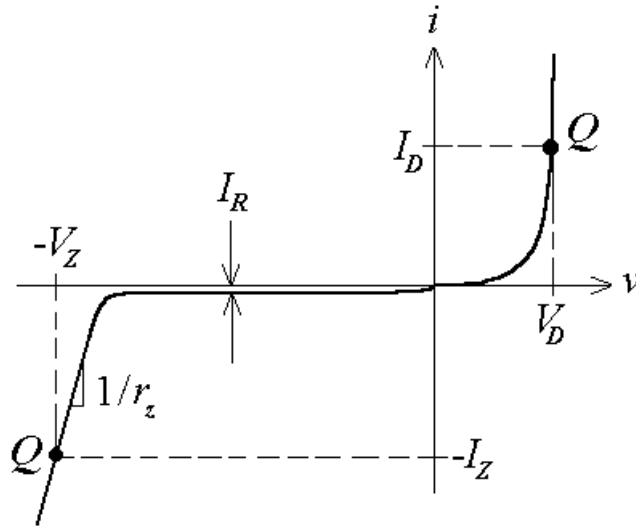
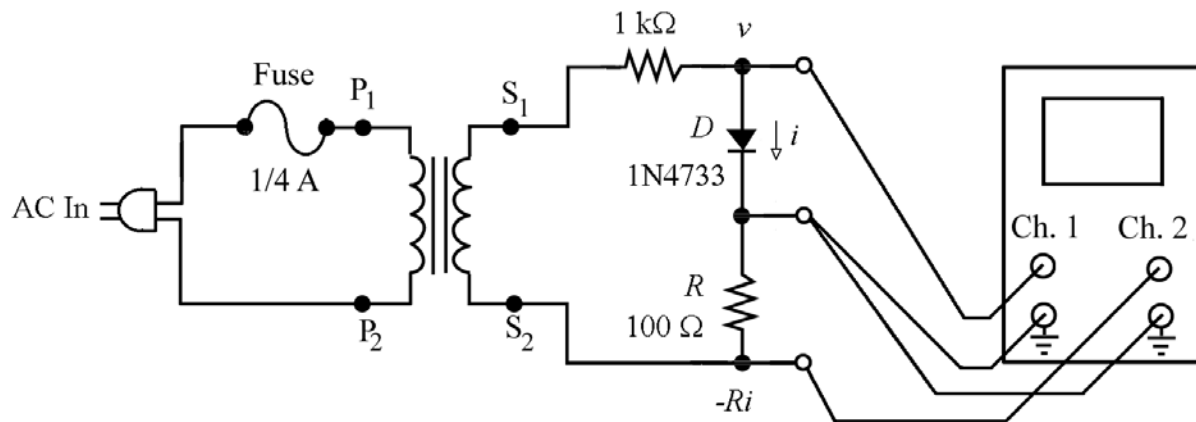

Fig. 1 - The complete i - v characteristic of a pn junction diode.
Fig. 4 – Displaying the *diode curve* with an oscilloscope operating in the x - y mode. (Note: Ch. 2 must be set in the *Invert Mode*.)
As the reverse bias voltage is increased further, a point is reached, called the *breakdown voltage* (BV), at which the reverse current shoots up in magnitude from the negligible value I_R just discussed to substantially higher values. The name stems from the fact that the i - v curve bends, or breaks down. This does not necessarily imply a destructive process – in fact, one always limits the reverse current within safety levels by interposing a suitable resistor in *series* between the driving voltage source and the reverse-biased pn junction. Figure 1 shows the complete i - v characteristic of a typical pn junction.
Figure 4 shows a simple arrangement to visualize the complete i - v curve of a diode on the oscilloscope. The function of the transformer is to provide a *repetitive* voltage drive, with the 1-k Ω series resistor providing a current-limiting function for the diode. In order to convert the current waveform to a voltage waveform for the oscilloscope, we sense i with the small ($R = 100 \Omega$) series resistor shown. The oscilloscope is operated in the x - y mode, with the diode voltage v going to Ch. 1, and the voltage $-Ri$,
MC1: With power off, assemble the circuit of Fig. 4. Also, configure the oscilloscope for x - y operation, with Ch. 2 in the *Invert Mode*. Adjust the position of the beam (dot) so that it is *right at the center* of the screen. Next, apply power, and play with the channel sensitivities until you obtain a curve of the type of Fig. 1. Hence, use this curve for a *first estimate* of $V_{D(\text{on})}$, V_{Z0} , and r_z for this particular diode sample.